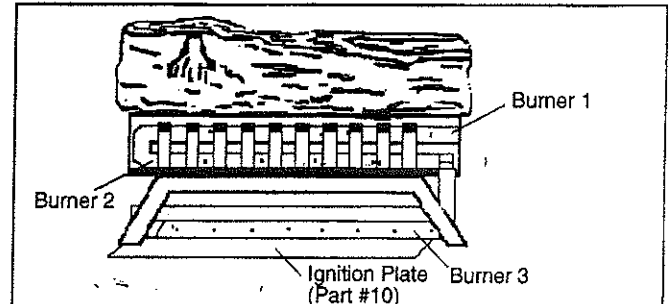

Figure 6. Installation of ignition plate and back log placement
- C. Position the largest log on the back log standoffs as shown in Figure 6.